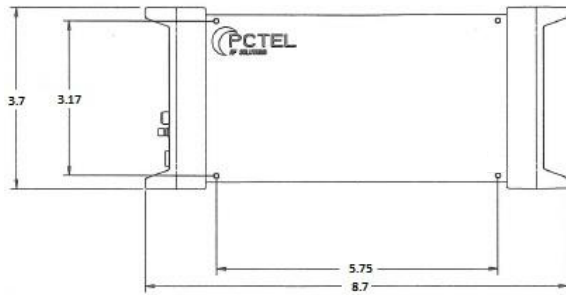
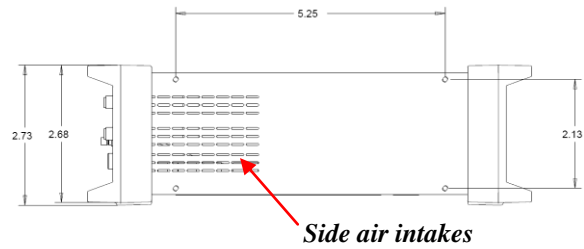
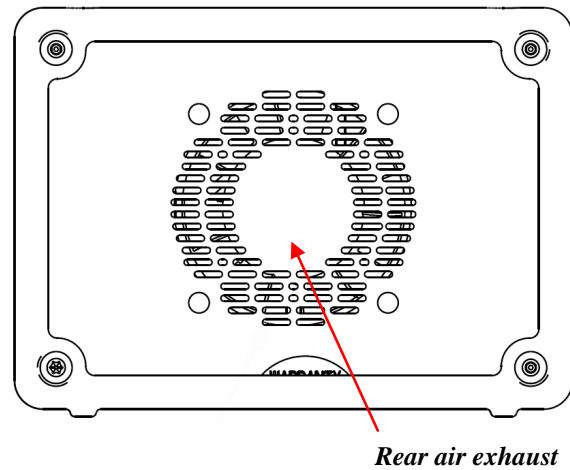

Figure 3 - SeeGull EXflex Scanning Receiver top view.
Figure 4 - SeeGull EXflex Scanning Receiver side view
Figure 5 - SeeGull EXflex Scanning Receiver rear view
There are sixteen (16) mounting holes (4-40 screw) on the chassis of the unit that are used for mounting in the user's enclosure/rack. Note that the maximum depth of screw insertion from the chassis exterior is 1/4". Refer to *Figure 3* and *Figure 4*. Care should be taken when mounting this unit in a system enclosure, rack, or case, not to obstruct airways. Unobstructed convection airflow is recommended.
Airway intakes are located on the left and right sides of unit as shown in *Figure 4* and *Figure 5*. Fan exhaust on rear of unit.